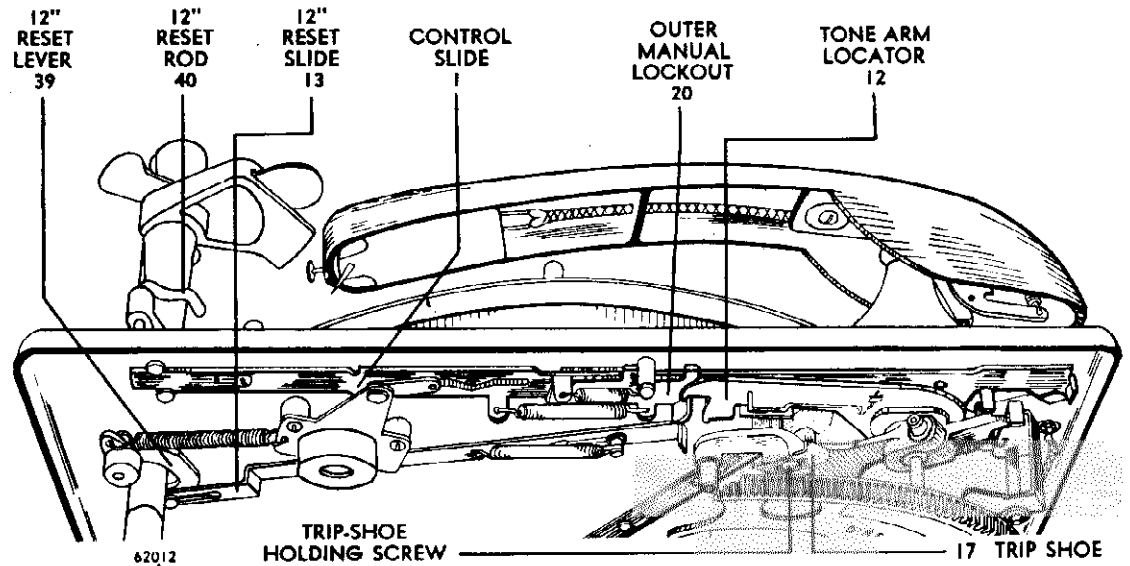

FIGURE 15. CUTAWAY BOTTOM VIEW
J. NEEDLE PRESSURE is controlled by the counter-balance spring (24) in back of the tone arm. The pressure is variable through the counter-balance adjusting slide (25). The needle pressure should not be less than 1-1/8 oz.
3. Closed-circle trip is incorrectly set. The trip shoe (17) is moveable and loosening its holding screw allows it to be adjusted as required. This adjustment is correct when the needle is 1-7/8 inches from the record center and the trip shoe pushes the trip lever which releases the clutch engagement lever. (See Fig. 15)